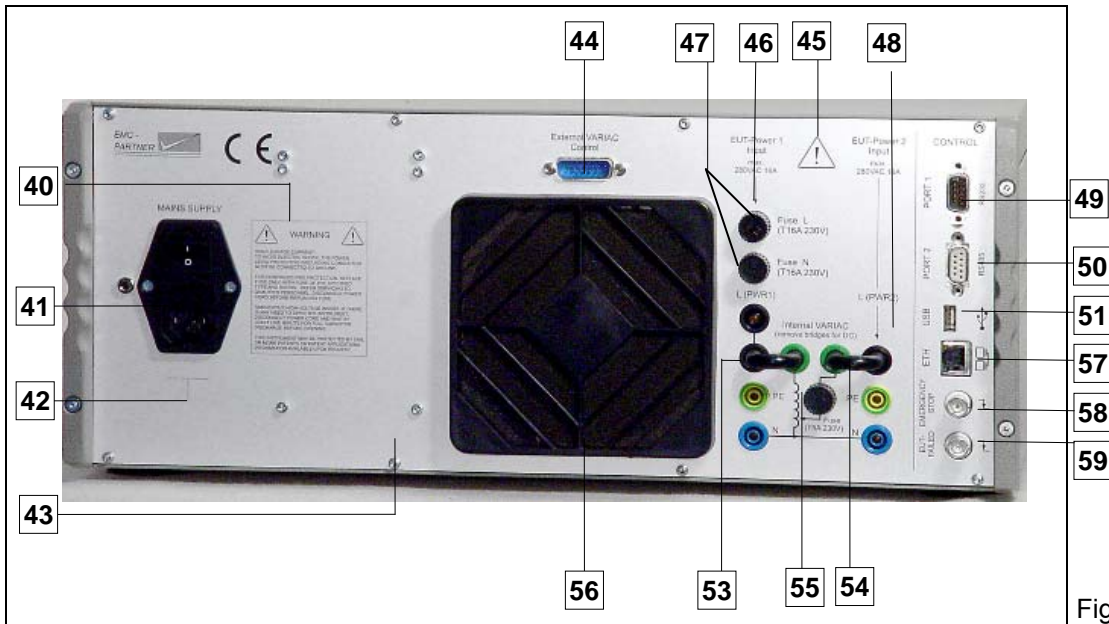

Fig. 4.2
4.1.2.7 Button Variac (25)
With this button the EUT power is turned on from the variac. When the power of the EUT is feed from input (48) (see Figure 4.2) e.g. internal or external variac, this status will be indicated by the LED (25) .
4.1.2.8 Synchro ON EUT Power (36)